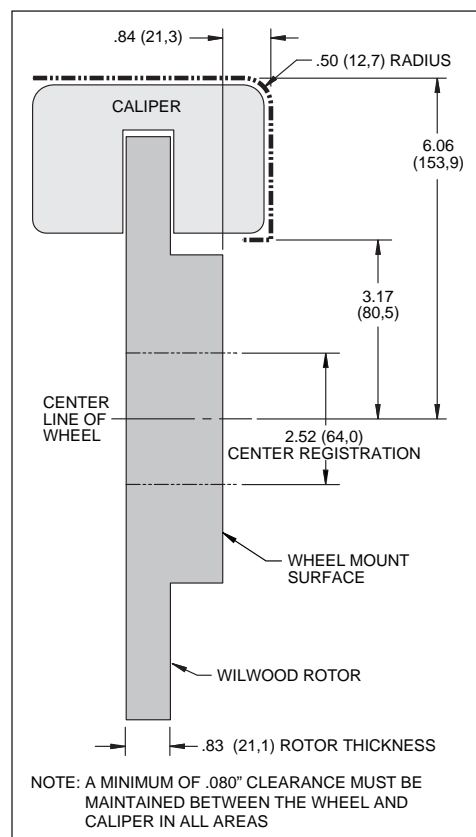

Figure 2. Wheel Clearance Diagram
NOTE: This kit will not work with vehicles equipped with OE 240mm rotors and spindles (even if upgraded to 262mm rotors) due to the lower height of the caliper mount points on these spindles. This kit will require a minimum of 15" diameter wheels and may not fit all OE or aftermarket 15" rims without spacers or special offset replacement wheels. Please verify your wheel clearance using Figure 2, on page 3 of this instruction sheet before attempting installation of this kit.
- Review the Wheel Clearance Diagram (Figure 2, page 3) to verify that there is adequate clearance with the wheels you will be using with the installation.
• Make sure this is the correct kit to fit the exact make and model year. This kit is specifically designed as a direct bolt-on Original Equipment (OE) replacement for Honda / Acura with 262mm (10.32") diameter rotors.
• Verify your wheel clearance using Figure 2.